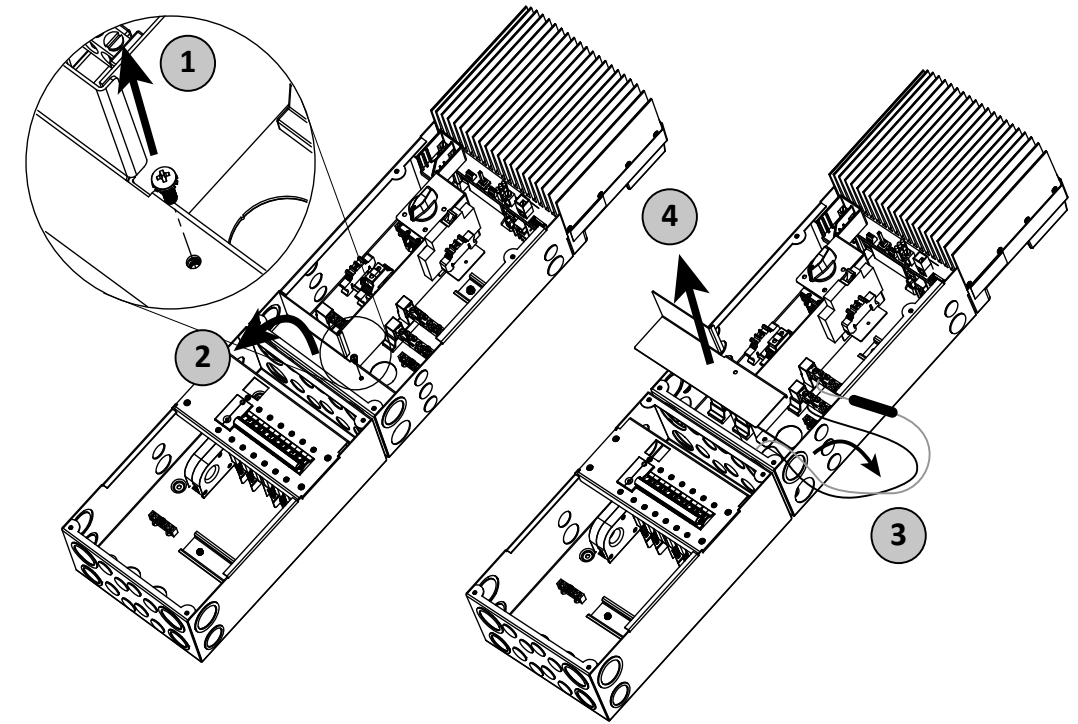

Figure 3-5. Removing the Wiring Divider
The wiring divider separates the solar high voltage wiring from the low voltage battery and communication circuits - see Figure 3-5. The divider is secured with only one screw.
2. Lift and tilt the divider towards the bottom of the unit as shown in Figure 3-5.